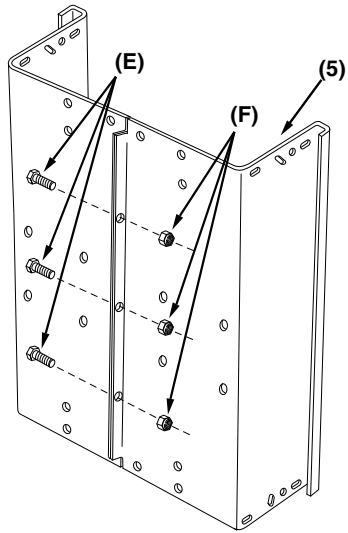

Figure 1
STEP 1 (SEE FIGURE 1): Assemble the cart body (5) using three 1/4" x 3/4" hex bolts (E) and 1/4" nylock nuts (F). **Do Not Tighten!**